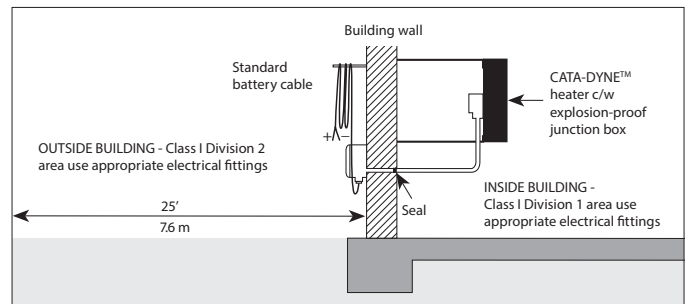

Figure 9 – Power supply connector (see Caution below).
4. Connection to the power supply must be outside of the Class I, Division 2 location (Figure 9, page 7). All electrical apparatus and wiring within this area must conform to the appropriate codes.